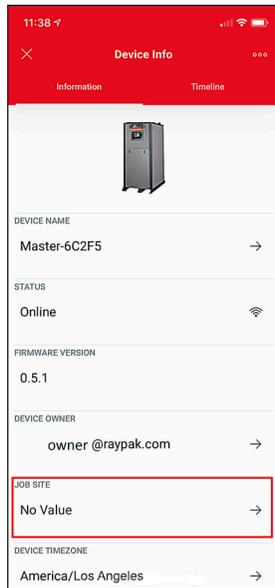

Figure 52. Select Job Site
1. Select Job Site see **Figure 52**.